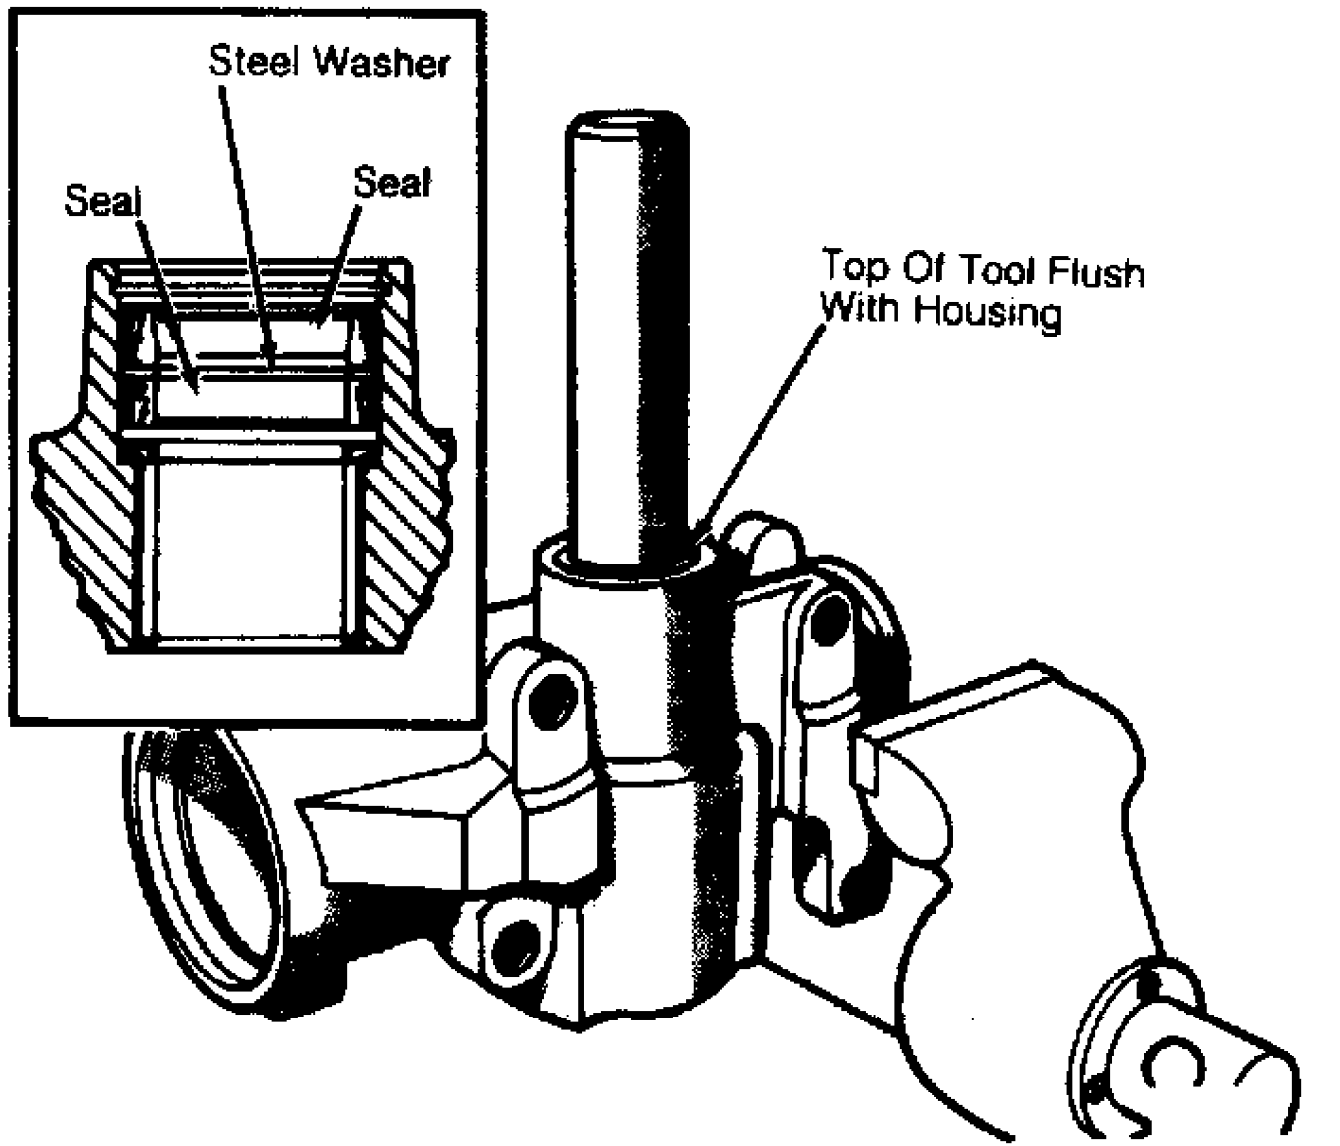

Fig. 14: Installing Sector Shaft Seals
2) Install lower oil seal, steel washer and upper oil seal on handle and adapter used to install bearing. See Fig. 14. Lips of both seals should face toward housing bore.